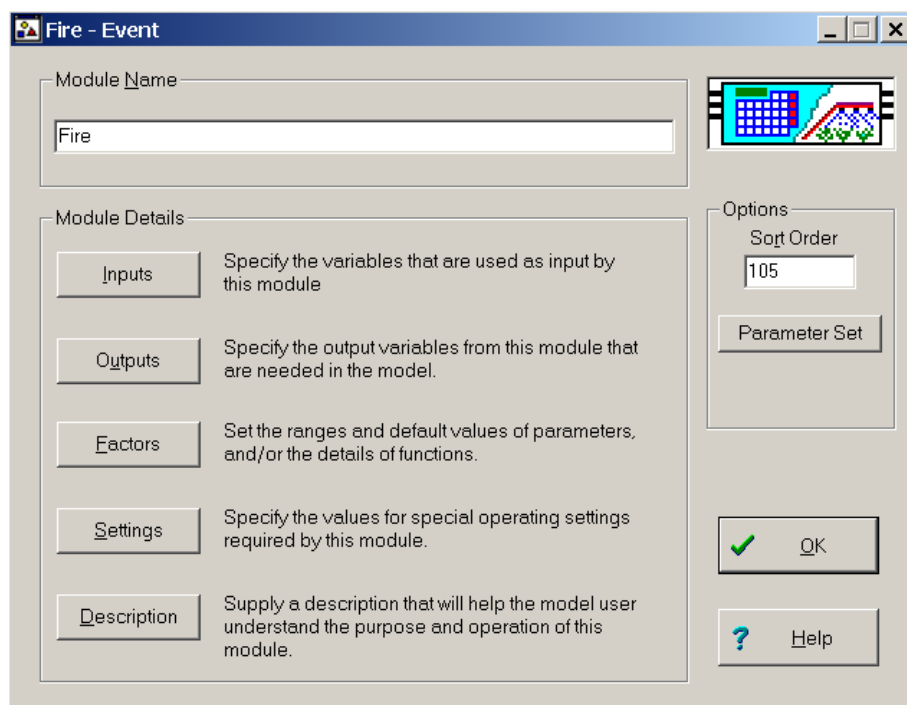

Figure 13.2 The 'Event' window - sort order has been set to place this module before the Lifecycle module in order of operation.
A number of alterations are required so that the Lifecycle module reacts to the Event module. First, an 'Event' module (figure 13.2) has to be built so that it can supply the event action variables to the Lifecycle module; and second, mortality functions that respond to the event output need to be set in each affected lifestage.
3. Open the '**Event**' module for editing (Figure 13.2)